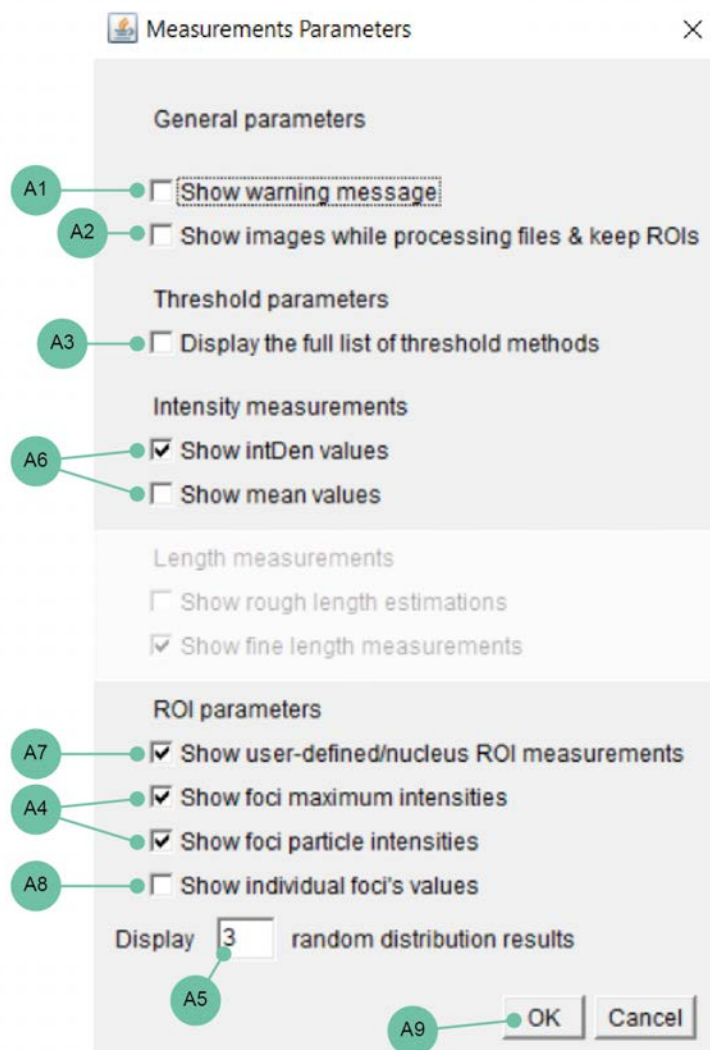

Figure 3.9. The (general) measurements parameters window.
If both "show individual foci's value" and "show foci maximum intensities" option are enabled in the measurements parameters menu (**OPTIONAL STEP A**, fig. 3.9) a corresponding maximum point ROI is generated (as shown in the example fociA\_ID (maximum)). Both the maximum and the particle share the same ID.
**OPTIONAL STEP A.** First click on the "Set measurements parameters" button (fig. 0) before using the "Count foci in two channels and colocalize" tool. This will bring up the Parameters menu (as shown in figure 3.9).
**PARAM A2.** By default, the images will be hidden during the analysis. However, if you prefer to view them, you can select the "Show images while processing files" option in the Parameters window (fig. 3.9).